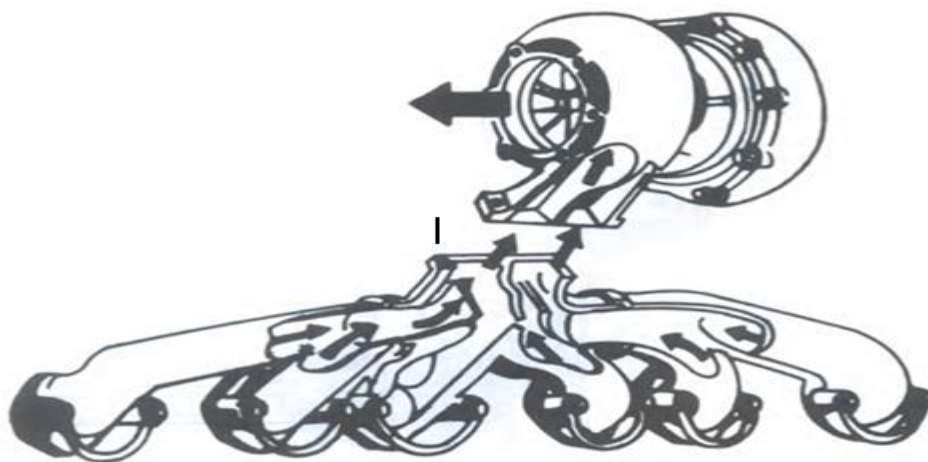

Fig. 5
- This design, with its individual branches as shown in Fig 5 prevents interference between the exhaust gas discharges from the separate cylinders, thus promoting a high-speed pulsing flow not achieved with other designs.